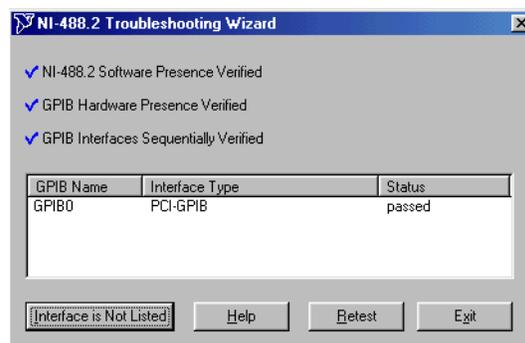

Figure 2–6 NI-488.2 Troubleshooting Wizard
5. When the software, hardware and interfaces have been verified, as shown in *Figure 2–4 NI-488.2 Troubleshooting Wizard*, click **Exit**.